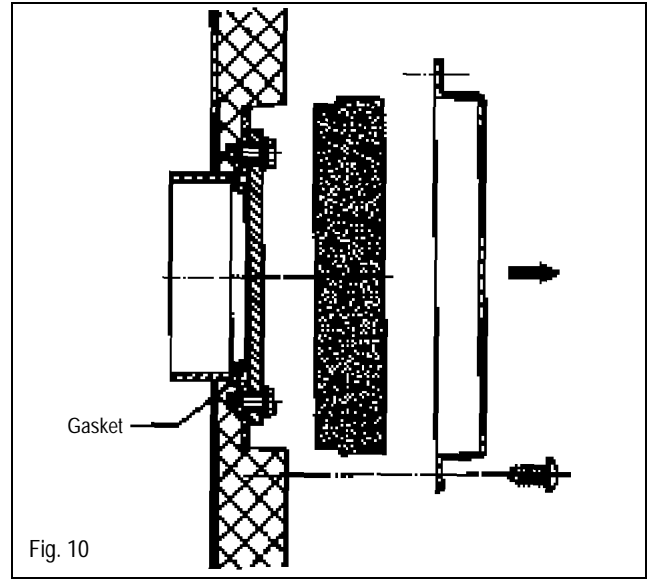

Fig. 10
- Remove front clean-out cover (Fig. 10).